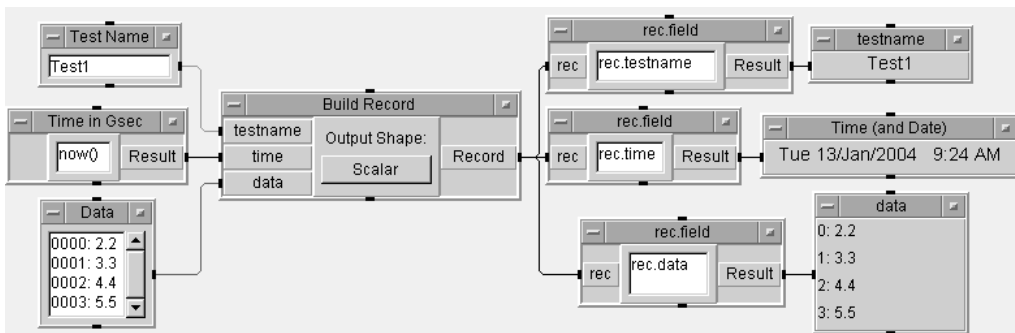

Figure 7.4. Using the Get Field object
11. Run your program. It should look like Figure 7.4.